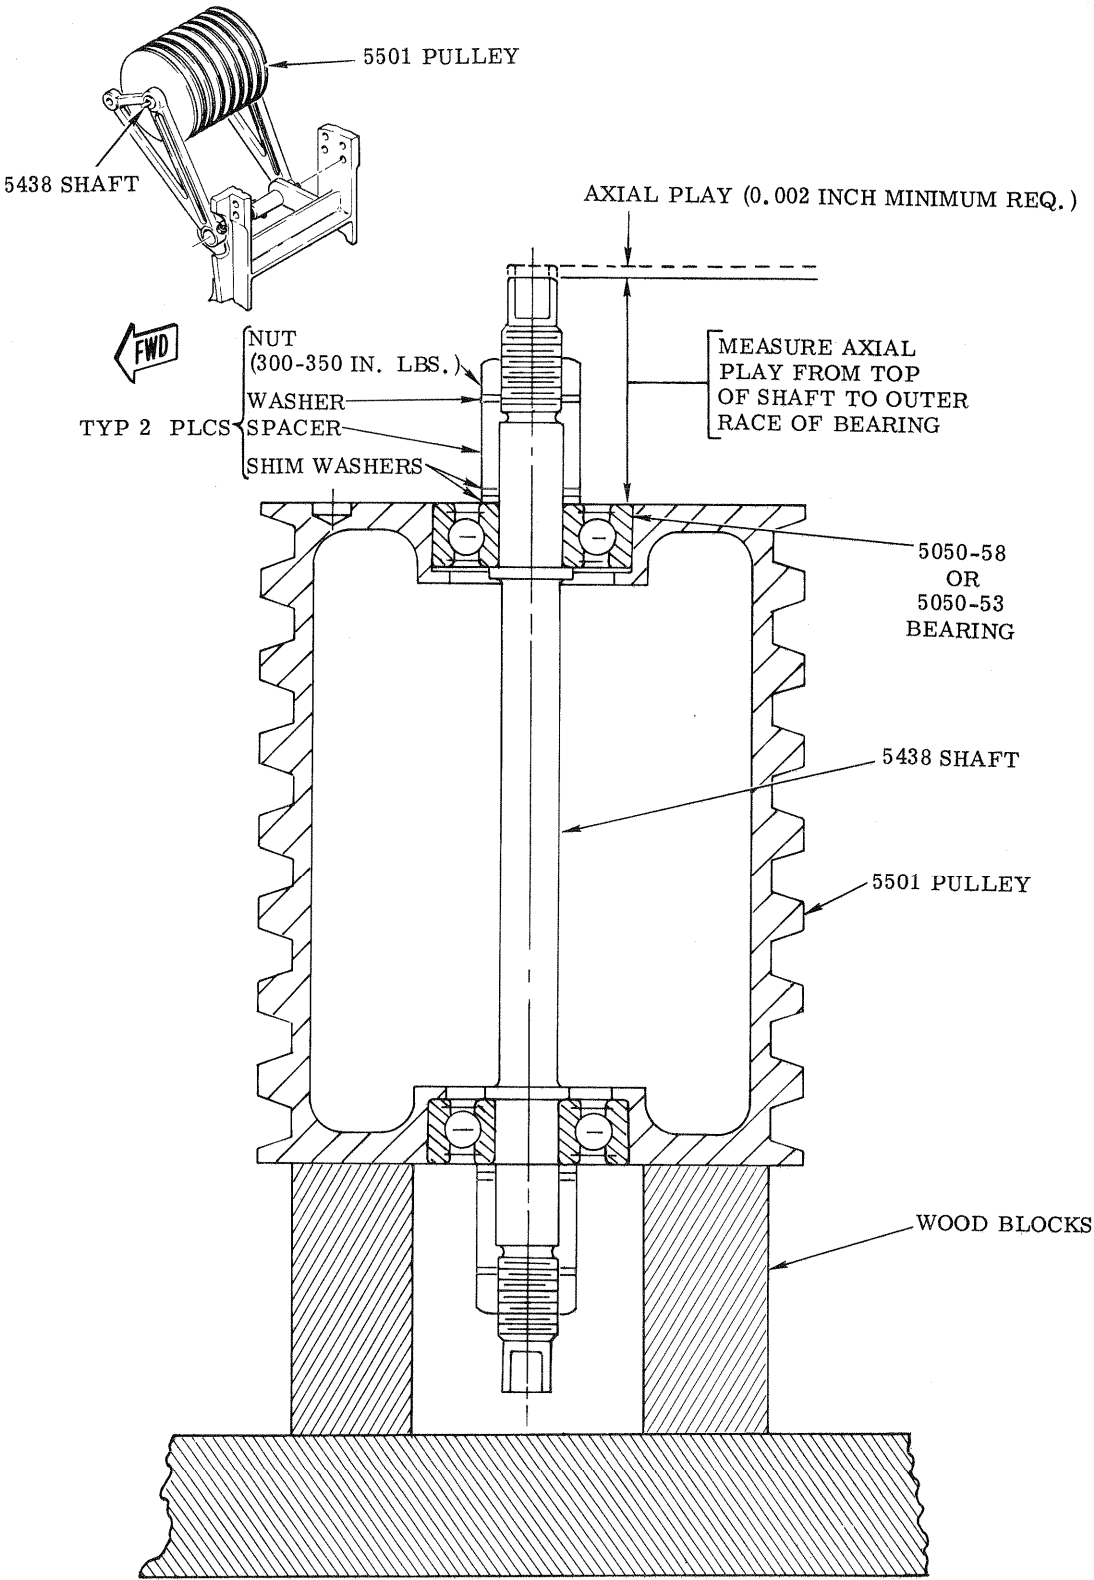

FIGURE 1. INSPECTION-IDLER PULLEY, AXIAL PLAY.
- j. Position idler pulley (with shaft and bearings installed) on wooden blocks, as shown in Figure 1.
- l. Using dial indicator or height gage, determine that a minimum of 0.002 inch axial play exists. (Take measurements from end of shaft to outer race of bearing. See Figure 1).